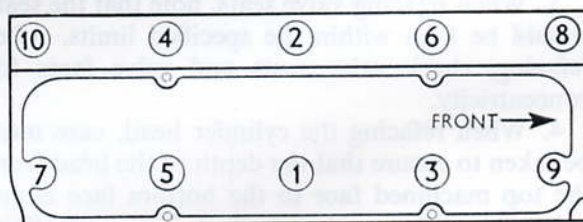

Fig. A.36. Cylinder head nut tightening sequence diagram
3. Tighten the cylinder head nuts gradually and evenly to the specified torque, in the order shown in Fig. A.36.